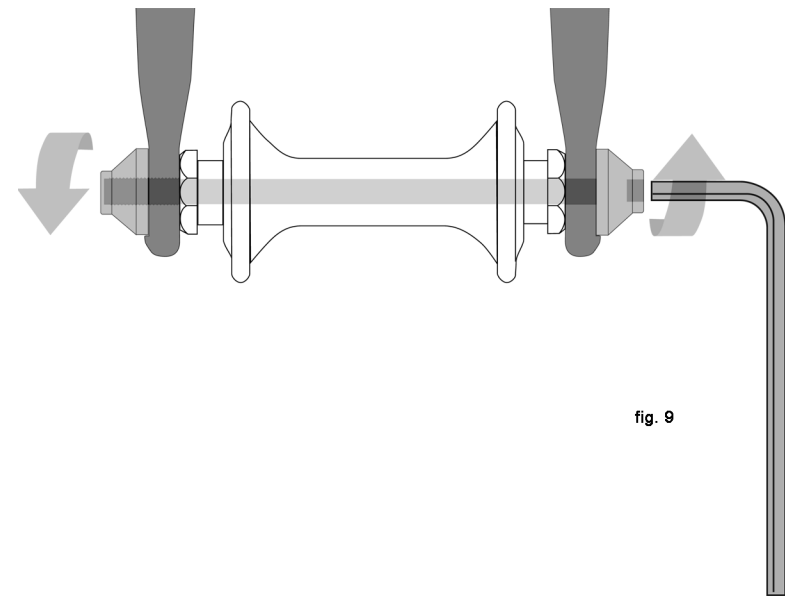

fig. 9
- A hollow axle with a shaft ("skewer") running through it which has a nut on one end and a fitting for a hex key, lock lever or other tightening device on the other (**through bolt, fig. 9**)